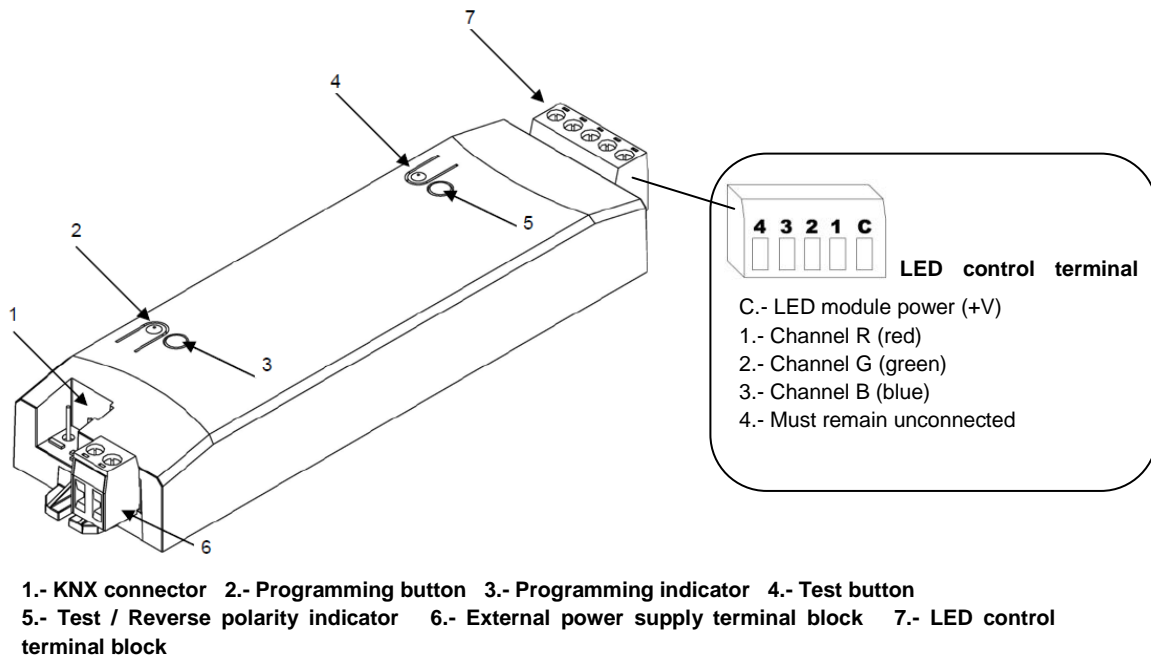

Figure 1.2. Lumento X3. Connection scheme
Figure 1.2 shows the connection scheme of LUMENTO X3:
Also provided with the controller is a second terminal block with screws (7), where every channel of the LED module must be connected, as well as the power line (+V). A scheme of the terminal block appears in figure 1.2, with detail of each connection point.